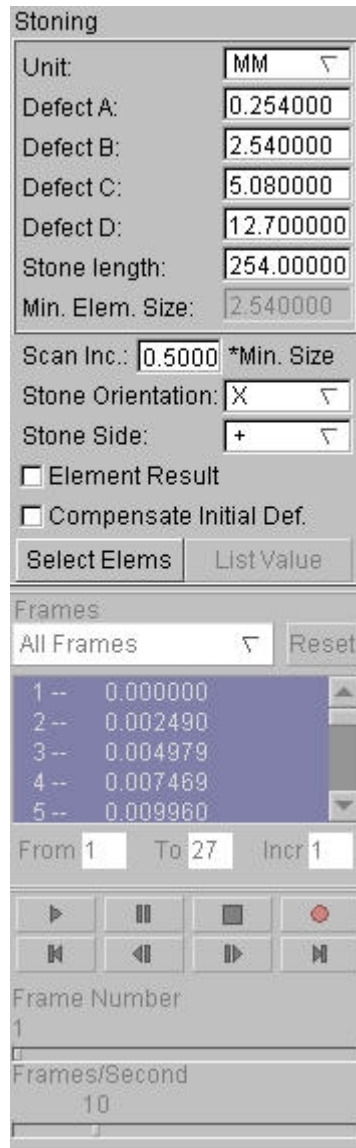

Figure 7.51 Defect Detection
- LIST VALUE and FRAMES selection will be activated as shown in Figure 7.51.